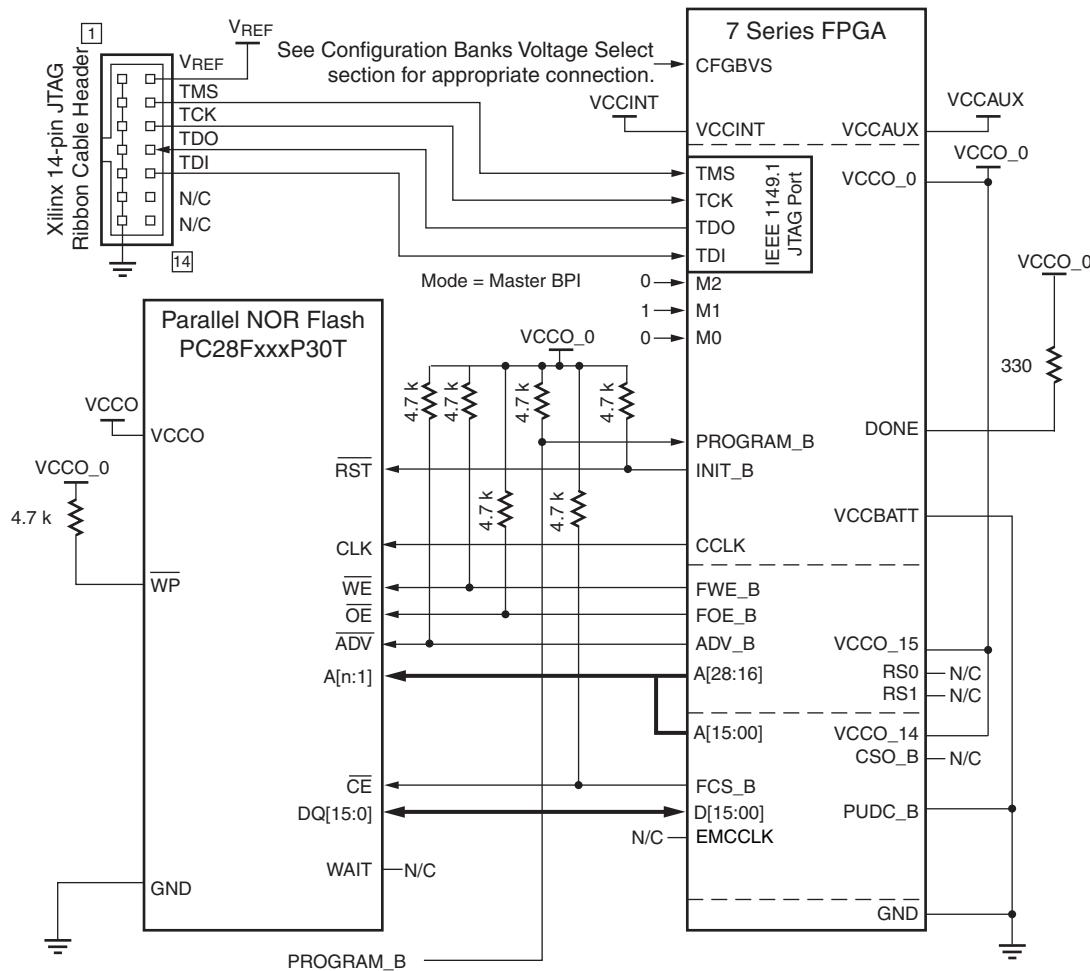

Figure 2-20: 7 Series FPGA Master BPI Configuration Interface Synchronous Read Example
The 7 series FPGA Master BPI configuration mode can optionally read a bitstream from select BPI devices that support burst, synchronous read mode as illustrated in Figure 2-20 and described in Synchronous Read Mode Support, page 64. A BPI device that supports the synchronous read mode latches a given start address from the FPGA into its internal address counter. Then given a clock, the flash outputs data from the next sequential address location to its data bus during each clock period. In the synchronous read mode, a BPI device can deliver data many times faster than through its asynchronous read interface. Refer to the specific FPGA for the number of address signals available that determine the maximum flash density supported for configuration.
Notes relevant to Figure 2-20:
1. The 7 series FPGA synchronous read mode requires a few additional connections over the asynchronous mode. The FPGA CCLK must be connected to the flash CLK signal and the FPGA ADV_B must be tied to the flash ADV signal. This setup shown in Figure 2-20 supports the FPGA powering up initially in asynchronous mode and then switching over to synchronous mode.
6. Only the x16 data width shown in Figure 2-20 is supported by the synchronous read mode.
8. The RS[1:0] pins are not connected as shown in Figure 2-20. These output pins are optional and can be used for MultiBoot configuration. See Chapter 7, Reconfiguration and MultiBoot.
11. The FPGA mode (M[2:0]) pins are shown set to Master BPI mode (010). The implementation of a board-level option that enables the user to change the FPGA mode pins to JTAG mode (101) is recommended to enable JTAG-based debug capability for the FPGA during design. This is not required, but the JTAG mode setting ensures that there is no interference from the Master BPI configuration during debug.